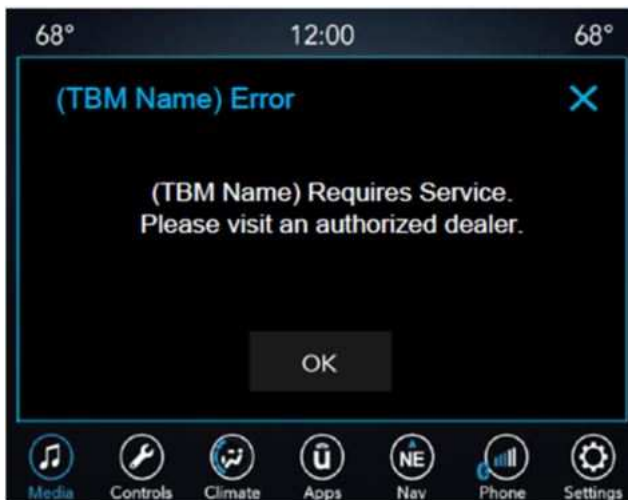

Fig. 6
21. If no pop-up appears or the following error pop-up appears (Fig. 6) the FOTA update procedure has failed. The vehicle will need additional diagnostics, **open an eContact ticket for advanced technical support.**
31. If no pop-up appears or the following error pop-up appears (Fig. 6) the FOTA update procedure has failed. The vehicle will need additional diagnostics, open an eContact ticket for advanced technical support.